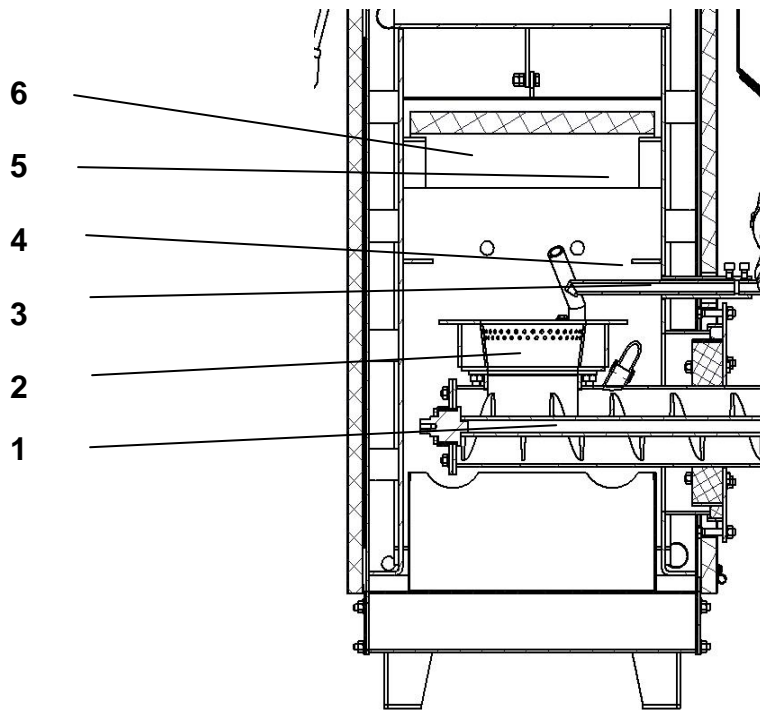

Fig. 11: Sectional view at the combusting chamber of the pellets boiler
- d) install the reflector (5) into the combusting chamber over the burner acc. to the Fig. 11, i.e. on the beam (6) in the boiler and pull to the back of the combusting chamber